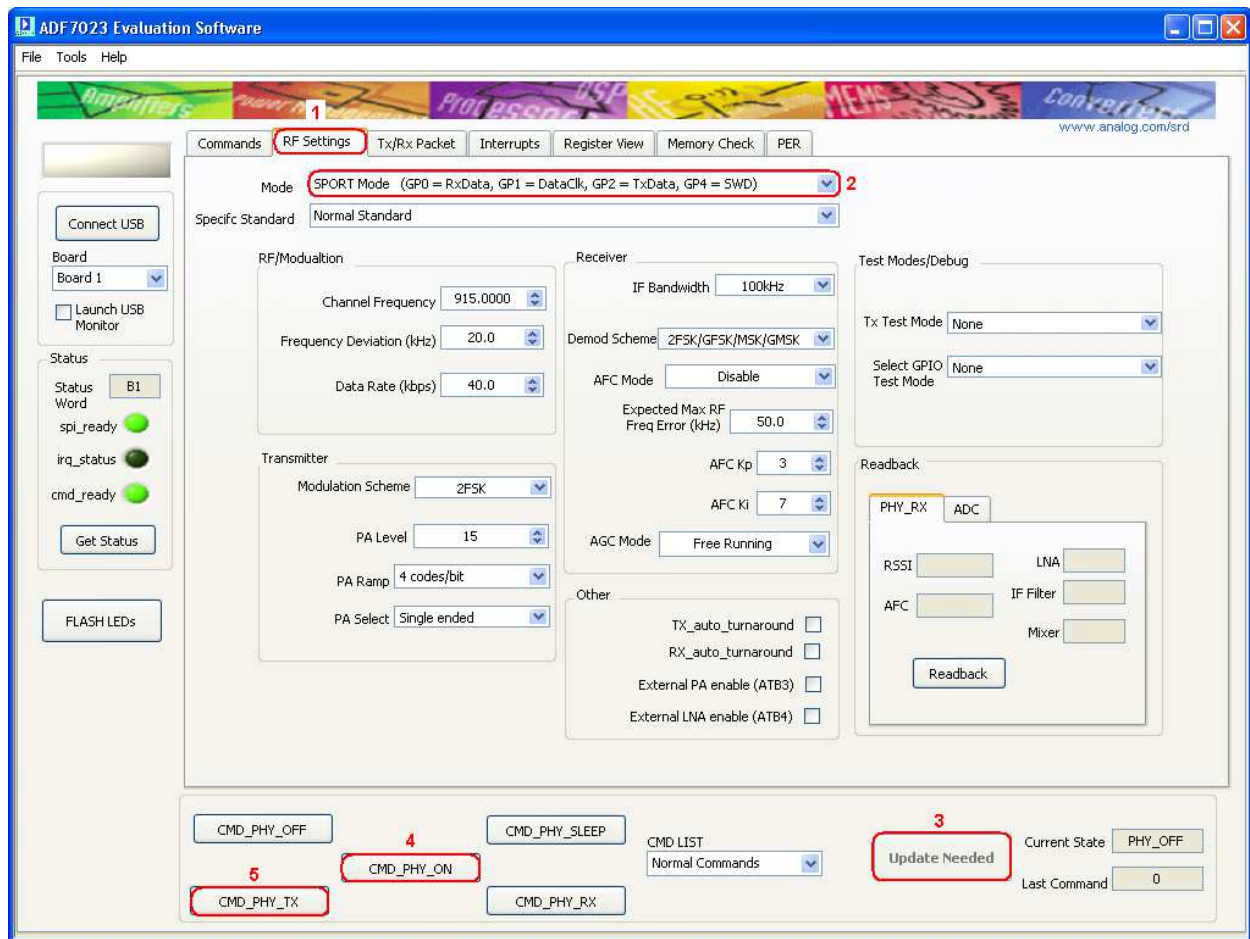

Figure 29
1. Select the “**RF Settings**” Tab and set the RF parameters as required. (Figure 29 point (1))
2. Select the **SPORT Mode** . (Figure 29 point (2))
3. Ensure part is in **PHY ON** (Figure 29 point (4))
4. Press **Update Needed**. This writes the settings to BBRAM and then does a CMD_CONFIG_DEV. (Figure 29 point (3))
5. Press “**CMD PHY TX**” to enter transmit mode (continuous carrier transmission) (Figure 29 point (5))
6. To exit **PHY TX** press **CMD PHY ON** (Figure 29 point (4))